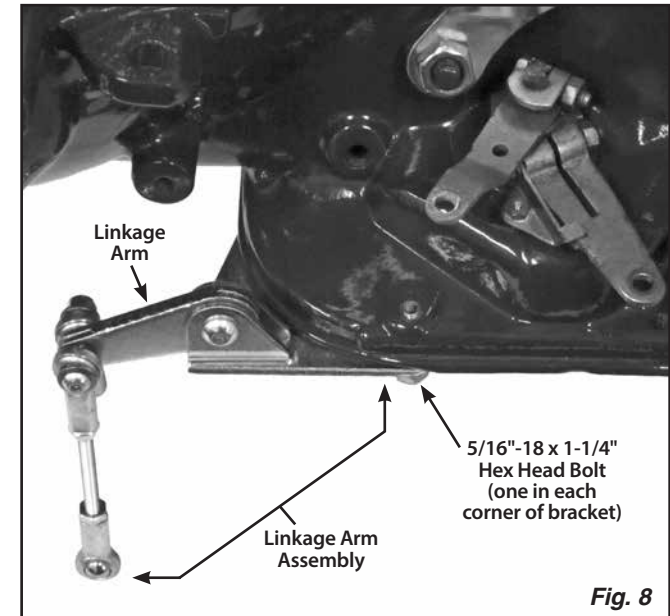

Fig. 8
Step 12: Remove the forward-most bolt from the left side of the transmission pan, and the bolt that is the furthest left on the front of the transmission pan. Remove the masking tape from the 5/16"-18 x 1-1/4" bolts on the provided linkage arm assembly. Install the linkage arm assembly onto the underside of the front left corner of the transmission pan. **Fig. 8**